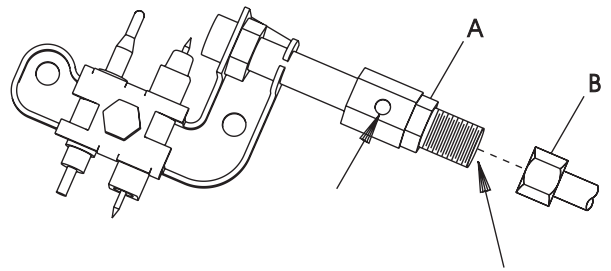

Figure 12
Oxygen Depletion Sensor Pilot - See Figure 12
2. Apply air pressure through the holes in the pilot indicated by the arrows in **Figure 12**. This will blow out foreign materials such as dust, lint and spider webs.
5. Disconnect pilot tubing from pilot. **See Figure 12**, Page 12. Grasp nut A with a wrench when removing nut B with a second wrench.
- c. Pilot is blocked from spider web or dirt - clean pilot, see **Figure 12**, Page 12.
- d. Pilot flame not surrounding thermocouple - clean pilot, see **Figure 12**, Page 12.
- a. Pilot is blocked - clean pilot, **See Figure 12**, Page 12.